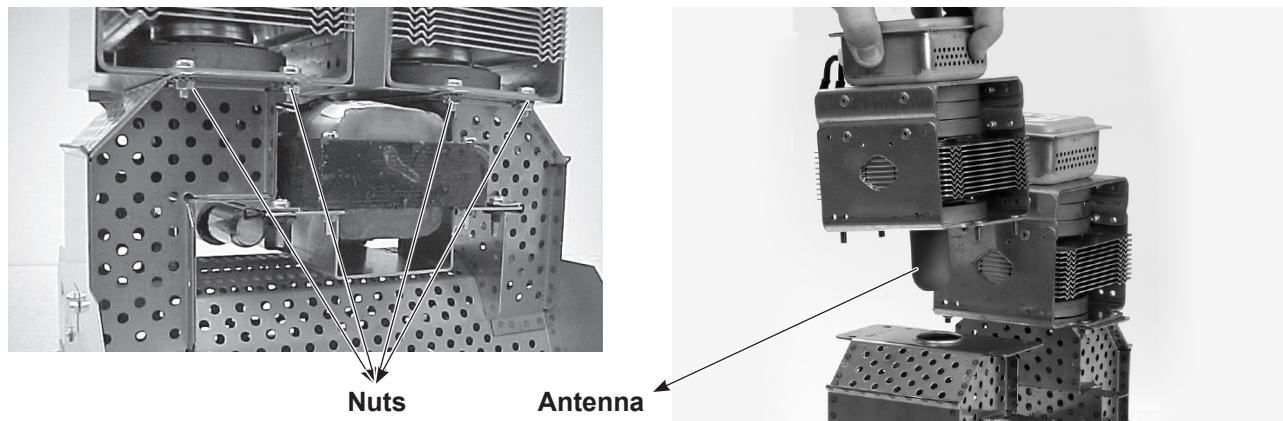

Figure 6-19 Magnetron Removal
4. See Figure 6-19. Remove the four nuts that secure each magnetron to the waveguide. Remove the magnetrons. Save the nuts for reuse.
5. See Figure 6-19. Inspect the gasket around the antenna of the new magnetron, making sure it is smooth and free of debris.